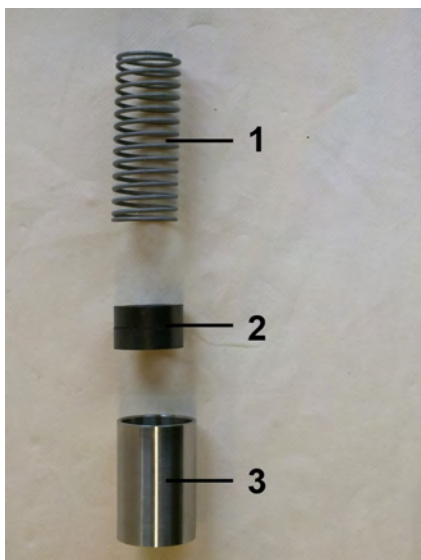

Fig. 56: Inner parts
3. ➤ Insert spring (Fig. 56/1) with magnets (Fig. 56/2) into the float, (Fig. 56/3) ensuring proper magnetic pole orientation (north pole toward device outlet)